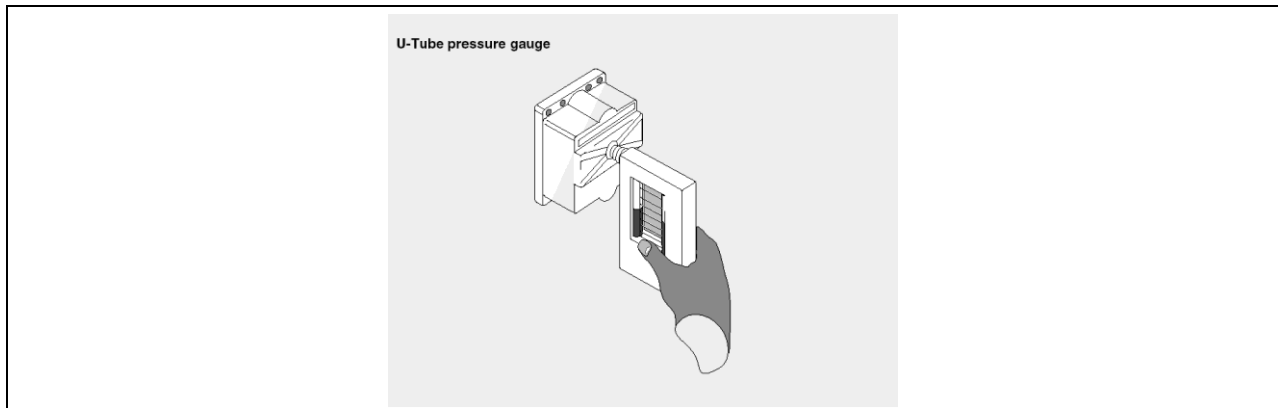

Figure 24: U-tube manometer connected to OMD control cover
- Connect a U-tube manometer at inspection cover (see **Figure 24**). (U-tube manometer is included in the service box, available as an option).